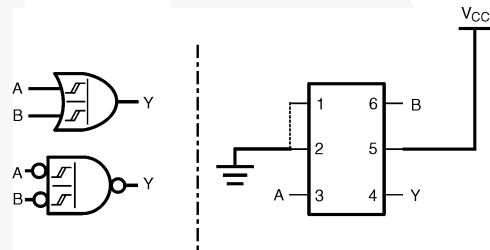

Figure 12. 2-Input OR Gate
- C_{PD} is defined as the value of the internal equivalent capacitance which is derived from dynamic operating current consumption (I_{CCD}) at no output loading and operating at 50% duty cycle. (See Figure 12) C_{PD} is related to I_{CCD} dynamic operating current by the expression: I_{CCD} = (C_{PD})(V_{CC})(f_{in}) + (I_{CCstatic}).